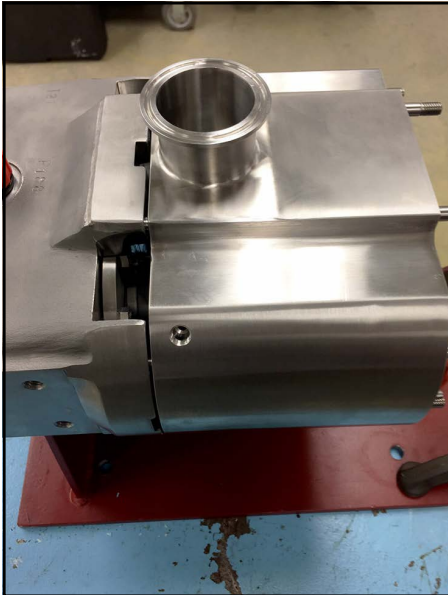

Figure 141 - Pump body-ported installed
6. Figure 141 shows the pump body-ported installed.